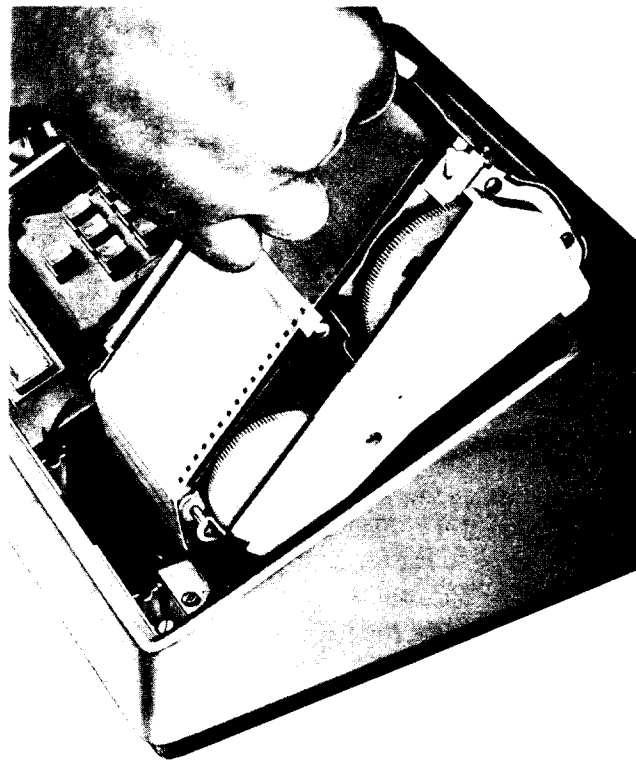

Fig. 12 — Replacing 1A Tape Cartridge in Set
- (b) Hold the directory latch (Fig. 12), lower the directory mechanism into the set.
- (13) Replace the faceplate by hooking the bottom tabs in place and lowering tab into engagement with the spring detent. *Be sure faceplate is down fully so that interlock switch is closed.*